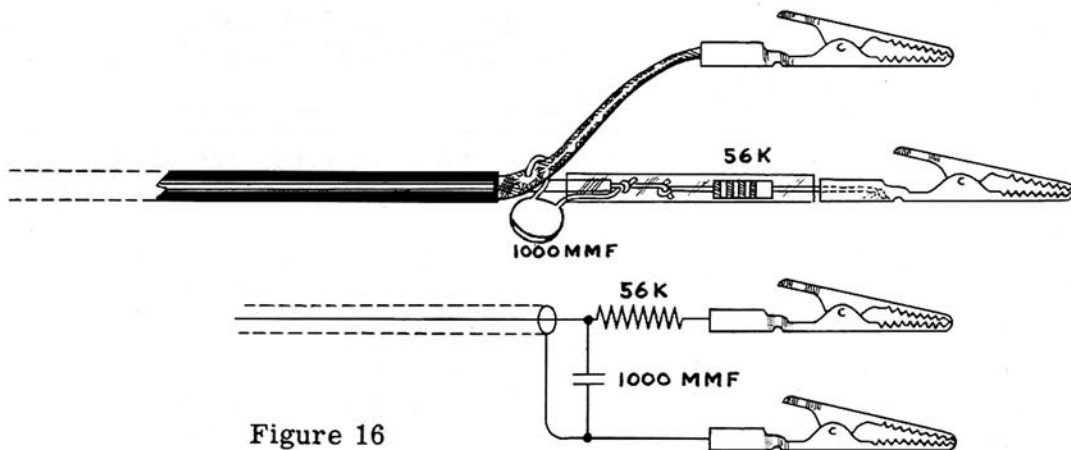

Figure 16
- () 253. The compensated isolating 'scope lead is prepared by cutting away $2\ 3/4''$ of outer insulation from a 3' length of cable. Pull the center wire through the braid as before. Cut the center lead to a length of $1\ 1/4''$ and strip the end. Cut one lead of a $56\ K\Omega$ resistor (green-blue-orange) to a length of $1/2''$ and connect this end to the end of the center conductor (NS). Cut one lead of a $1000\ \mu\mu\text{f}$ condenser (same as $.001\ \mu\text{fd}$) to a length of $7/8''$ and connect this lead to the juncture of the resistor and center wire (S). Dress the condenser wire along the center wire insulation and wrap the other lead around the braid at the end of the outer insulation (S). Cut a piece of large sleeving $2''$ long and slip it over the resistor and center wire until it rests against the body of the condenser. Solder an alligator clip to the end of the braid and another clip to the end of the resistor as shown in Figure 16.